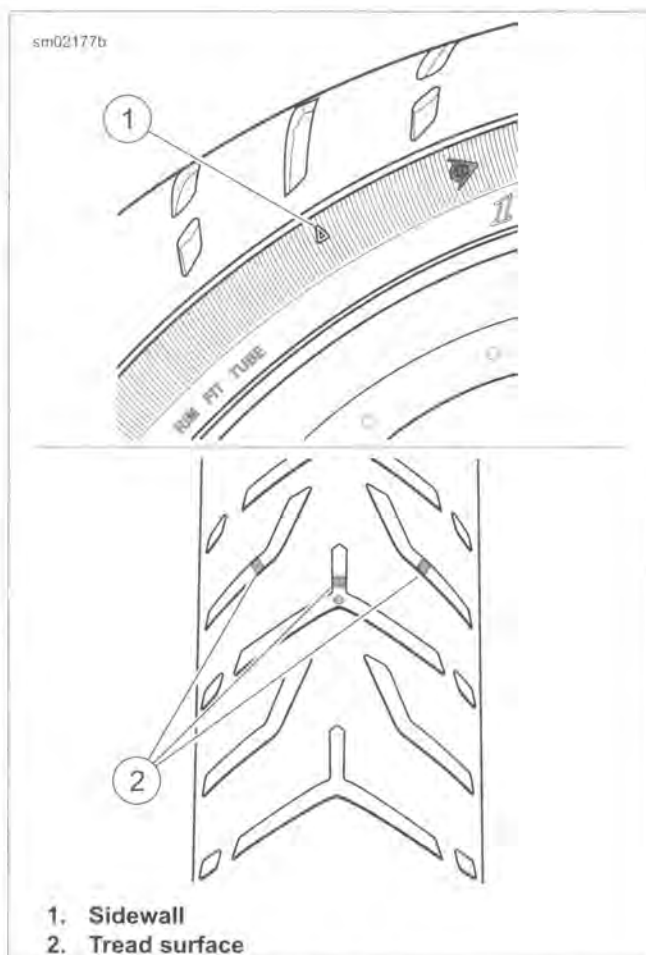

Figure 2-81. Tread Wear Indicators (Typical)
- See Figure 2-81. The tread wear indicator bars will appear on tire tread surfaces when 1/32 in (0.8 mm) or less of tread remains. Always remove tires from service before they reach the tread wear indicator bars.